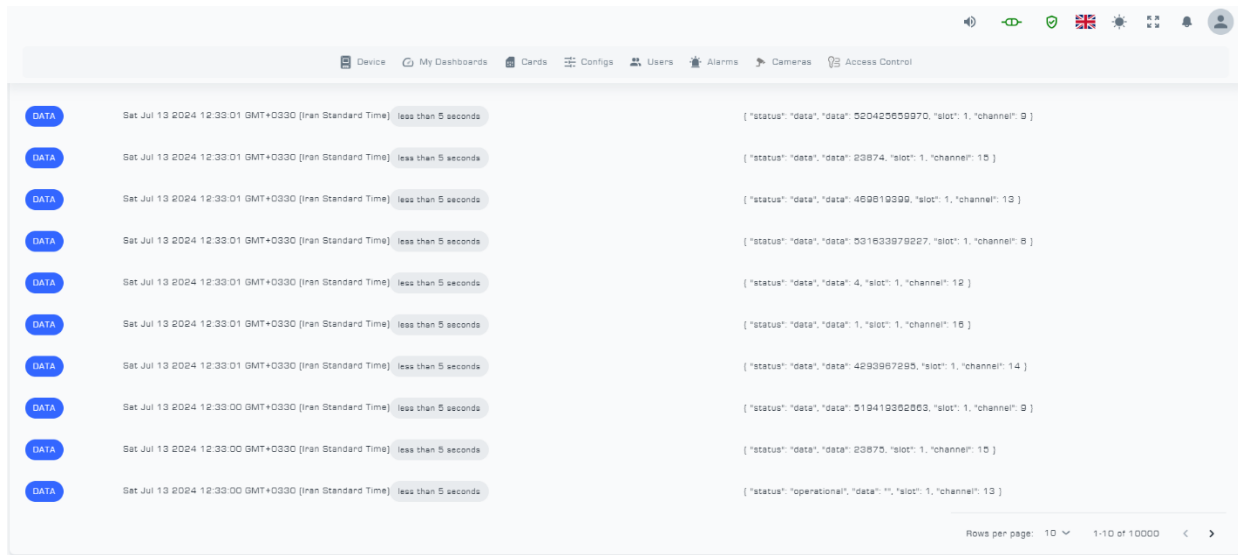

Figure 20: Hardware Raw Data Page
■ The **Hardware Raw Data** submenu displays the status of data transmission from each channel and slot (Figure 20). Table 4 also provides the toolbar configuration for the Hardware Raw Data page.